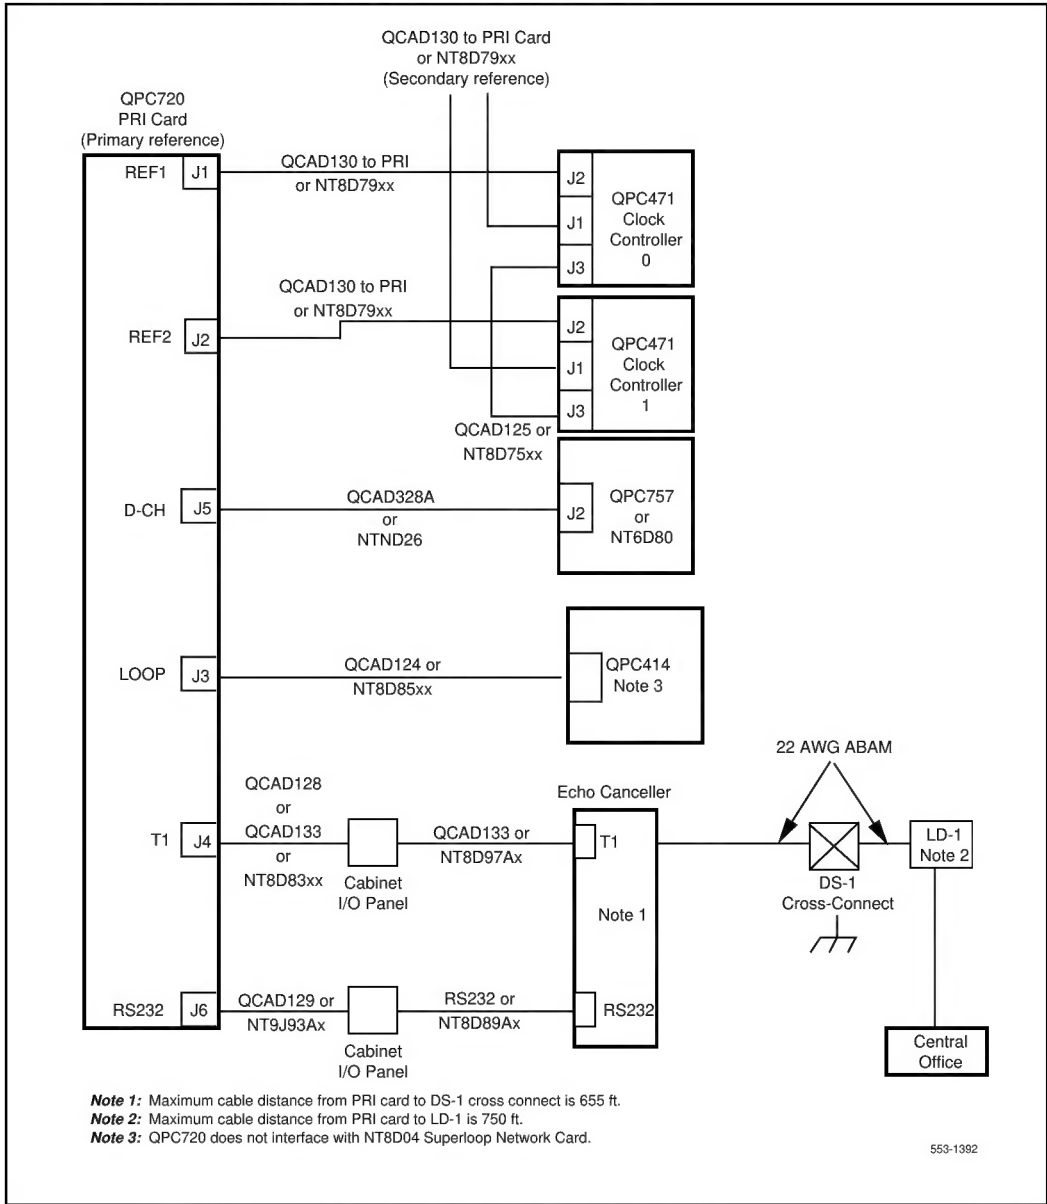

Figure 17
- 3 Set option switches on the PRI circuit card. See Figure 17 and Table 12.